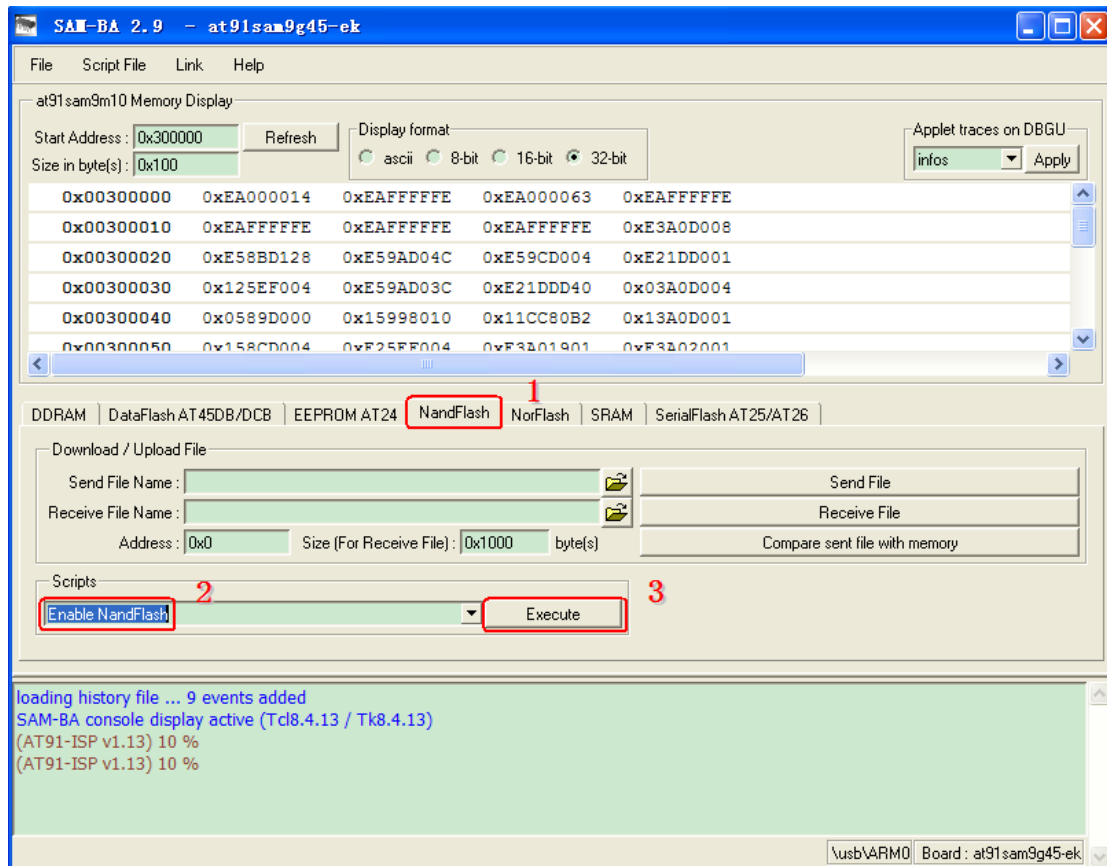

Figure 5-5
- (2) Select NandFlash tab. Select "Enable NandFlash" in Scripts tab and then click Execute. Refer to figure 5-5: